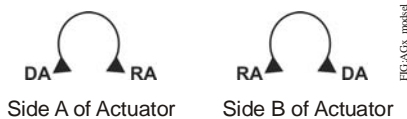

Figure 12: Mode Selection
Figure 11 and Figure 12 indicate how the drive direction for the actuator depends on the spring return direction and the position of the mode selection switch.
The M9220-AGx-3 Floating Electric Spring Return Actuators are factory set at DA, 90 degrees of travel as illustrated in Figure 12. To reverse the rotation, either move the mode selection switch from Direct Acting (DA) to Reverse Acting (RA), or reverse the control input wiring to GRY 3 and ORN 4 (as illustrated in Figure 9).